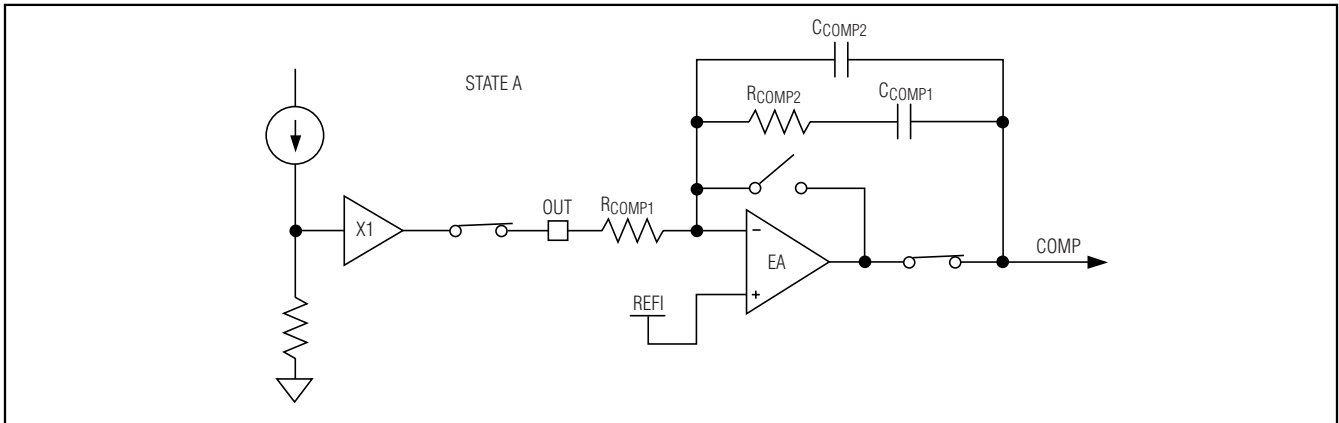
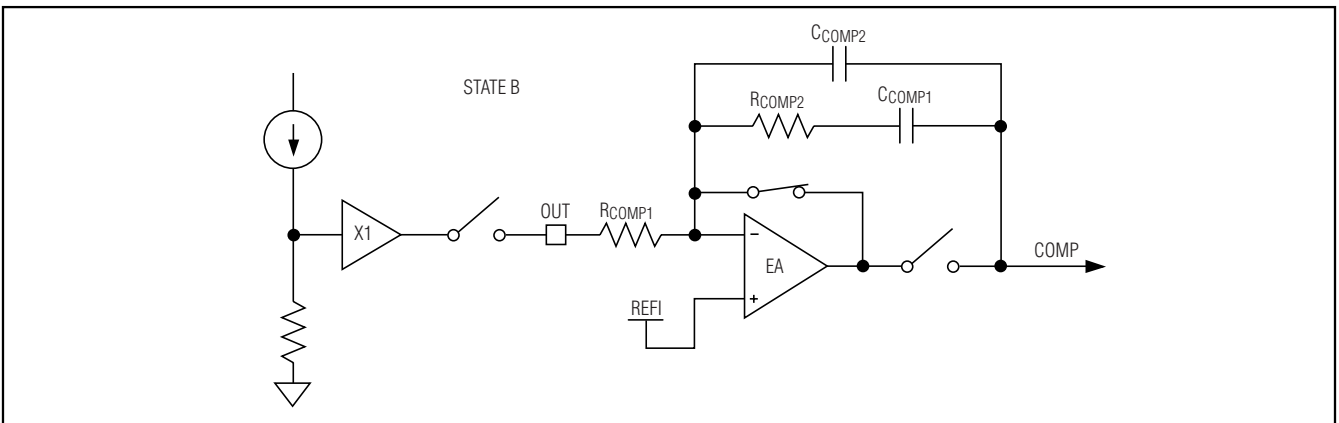
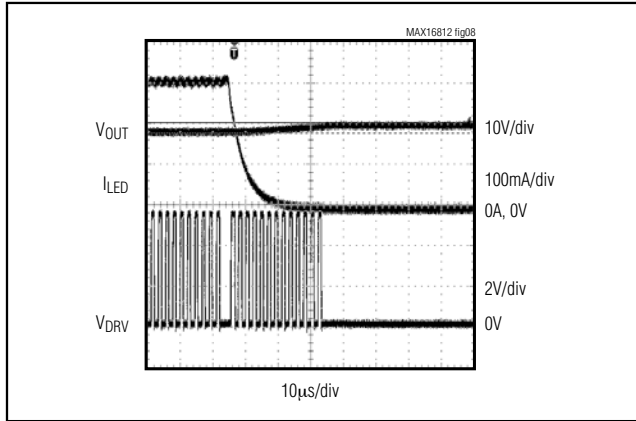

Figure 4. Internal Error Amplifier Connection (Dimming Signal High)
Figure 5. Internal Error Amplifier Connections (Dimming Signal Low)
Figure 8. LED Current, Output Voltage, and DRV Waveforms when DIM Signal Goes Low
The MAX16812 includes a built-in voltage-error amplifier, which can be used to close the feedback loop. The internal LED current-sense output signal is buffered internally and then connected to CS\_OUT through an internal switch. CS\_OUT is connected to the inverting input (FB) pin of the error amplifier through a resistor. See Figures 4 and 5. The reference voltage for the output current is connected to REFI, the noninverting input of the error amplifier. When the internal dimming signal
is low, COMP is disconnected from the output of the error amplifier and CS\_OUT is simultaneously disconnected from the buffered LED current-sense output signal (Figure 5). When the internal dimming signal is high, the output of the op amp is connected to COMP and CS\_OUT is connected to the buffered LED current-sense signal at the same time (Figure 4). This enables the compensation capacitor to hold the charge when the DIM signal has turned off the internal switching MOSFET gate drive. To maintain the charge on the compensation capacitors  $C_{COMP1}$  and  $C_{COMP2}$ , the capacitors should be of the low-leakage ceramic type.
PWM dimming can also be achieved by connecting TGRM to a DC voltage less than  $V_{REF}$  and applying the PWM signal at DIM. The moment the internal dimming signal goes low, gate drive DRV to the internal switching MOSFET is turned off. The error amplifier goes to state B (see the *Internal Error Amplifier* section and Figures 4 and 5). The peak current in the inductor prior to disabling DRV is  $I_{LX}$ . Gate drive DGT to the external dimming MOSFET is held high. Then after a switchover period, gate voltage  $V_{DGT}$  on the external dimming MOSFET is linearly controlled to reduce the LED current to 0. The fall time of the LED current is controlled by an internal timing circuit to  $5\mu s$  for the MAX16812. During this period, the gate (DRV) to the internal switching MOSFET is enabled. After the fall time, the gate drive to the external dimming MOSFET is turned off and the gate drive to the internal switching MOSFET is still held high after the switchover period. The peak current in the inductor is controlled at  $I_{LX}$ . Then after a time period of  $20\mu s$ , the gate drive is disabled. The scope shots in Figures 8–11 show the dimming waveforms.
When the DIM signal goes high, the LED current is gradually increased to the programmed value. The rise time of the LED current is controlled to 5µs for the MAX16812 by controlling the voltage on DGT. After the rise time, an internal sensing circuit monitors the voltage across the drain to the source of the external dimming MOSFET. The LED current is now controlled at the programmed value by a linear current regulating circuit. Once the voltage across the drain to source of the dimming MOSFET drops below 0.5V, the reference for the linear current regulating circuit is increased to 1.1 times the programmed value. The gate drive (DRV) to the internal switching MOSFET is enabled and the error amplifier is returned to state A (see the *Internal Error Amplifier* section and Figures 4 and 5).